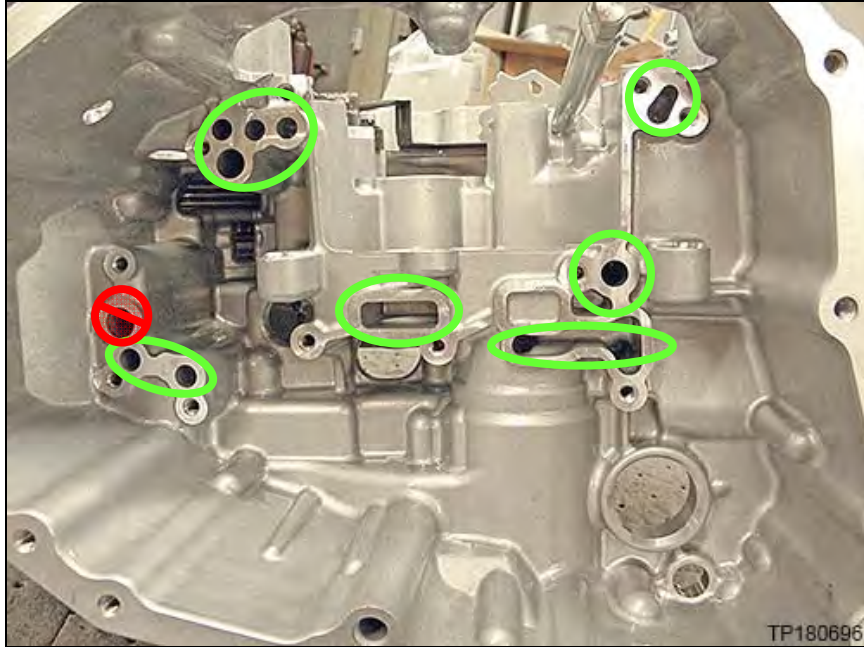
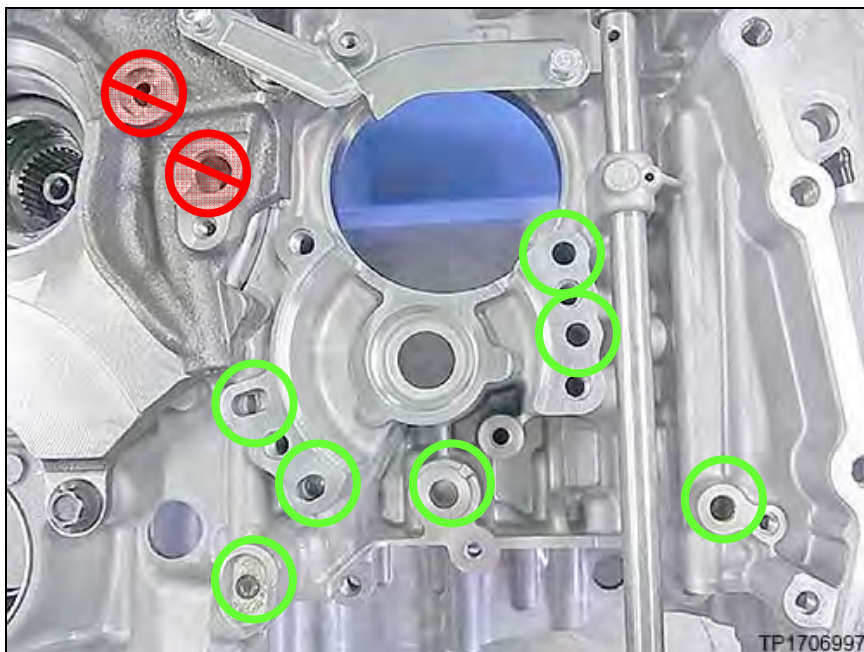

Figure 2L
Figure 3L
2. Spray brake cleaner into each oil passage, indicated in green, of the CVT case where shown in Figure 2L and Figure 3L, until the fluid runs clear for 5 seconds.